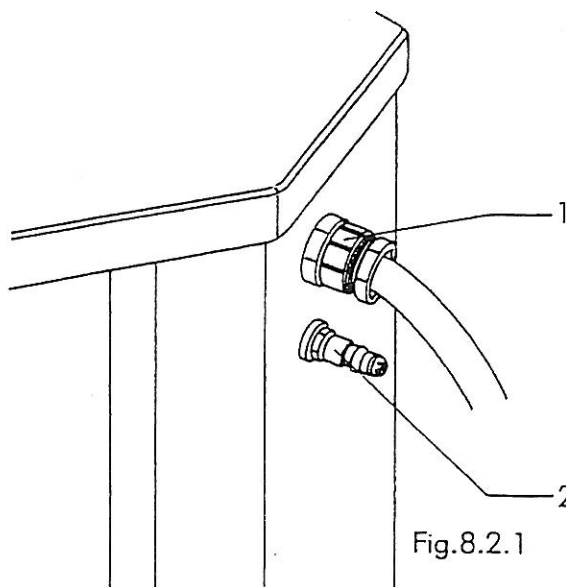

Fig.8.2.1
- Make the connection using connector 1 Fig. 8.2.1.
- Connect up the filter -reduction unit - lubricator located on the machine with the compressed air distribution line using the appropriate rapid connector 2 Fig. 8.2.1.